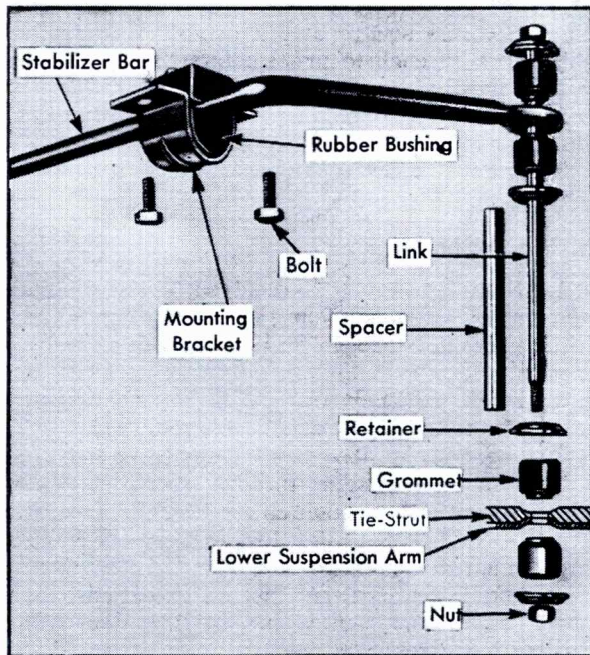

Fig. 3-8 Front Stabilizer Linkage
1. Remove nut, retainer, and grommet from bottom of each link Fig. 3-8.
2. Install mounting brackets over rubber bushings and secure with bolts, Fig. 3-8. Tighten bolts to 20 foot-pounds.
3. Install grommets, retainers, links, and spacers on ends of stabilizer bar, making certain that retainers and grommets are arranged exactly as shown in Fig. 3-8.